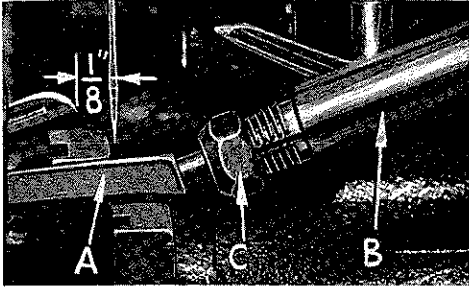
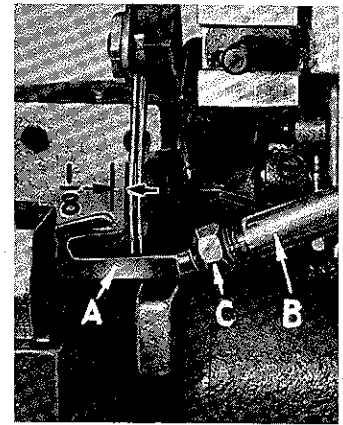

Fig. 5
Fig. 5A
At this point, insert lower looper (A, Fig. 5) for Style 39500 JK or lower spreader (A, Fig. 5A) for Style 39500 JL, into bar (B). With lower looper or spreader at the left end of its stroke, set looper point $\frac{1}{8}$ inch from center of needle (Fig. 5) or set lower spreader $\frac{1}{8}$ inch to the left of the center-line of left needle (Fig. 5A), using looper gauge No. 21225 G- $\frac{1}{8}$. Do not have lower looper or spreader deflecting needle. Tighten nut (C). Now assemble differential (front) feed dog.